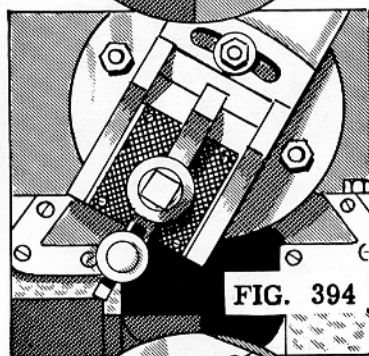

FIG. 394
4. Start the machine and move the tool with the down-feed crank until the tool takes a light cut (Fig. 394).